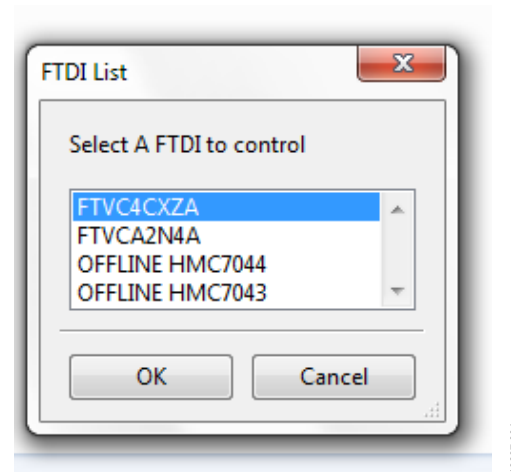

Figure 4. Select USB Device Window/Multiple Evaluation Boards Found
5. If multiple HMC7043 evaluation boards are connected to the same PC, a hardware selection dialog box appears (see Figure 4). The text in this window is either a serial number, **OFFLINE HMC7044**, or **OFFLINE HMC7043**. Select the serial number and click **OK**.